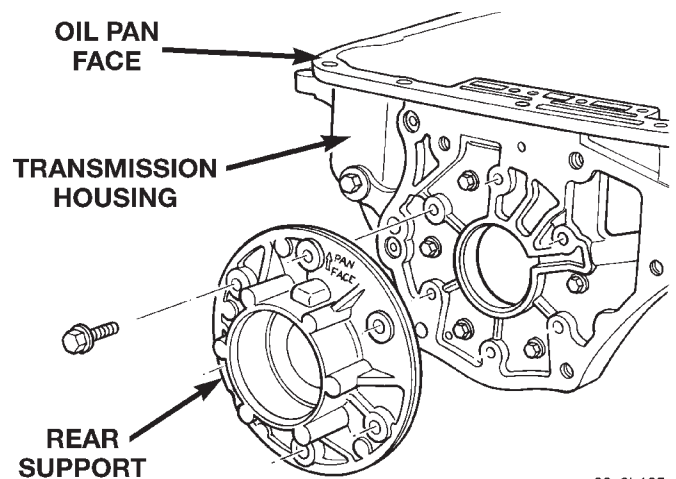

Fig. 97 Rear Support
(9) Lubricate overrunning clutch rollers, springs and cam with Mopar® ATF Plus 3, type 7176, transmission fluid.
(10) Position overrunning clutch on a clean, flat work surface with countersunk holes downward.
(11) Place rear of low-reverse drum over overrunning clutch and align clutch rollers to hub of drum.
(12) While slightly pivoting low-reverse drum, push hub of drum into overrunning clutch. Verify that countersunk holes are facing outward. **Cam should be able to rotate in the drum clockwise only.**
(13) Insert a suitable awl through the rear support mounting hole closest to the pan sealing face. The awl should be next to the wide space area at the back of transmission case.
(14) Insert low-reverse drum and overrunning clutch into front of transmission case and into rear band.
(15) Insert awl tip into the threaded hole next to the non-threaded hole in the overrunning clutch cam. Verify that non-threaded hole is aligned with wide space area on transmission case.
(16) Push low-reverse drum rearward to close gap between cam and case.
(17) Install overrunning clutch cam bolts. **Clutch cam bolts are shorter than rear support bolts.** Tighten cam bolts to 17 N·m (150 in. lbs. or 13 ft. lbs.) torque.
(18) Hold low-reverse drum in position so rear support will not push it out of overrunning clutch.
(19) Insert rear support into opening at rear of transmission case (Fig. 97).
(20) Align support with the embossed arrow in the direction of the pan face.